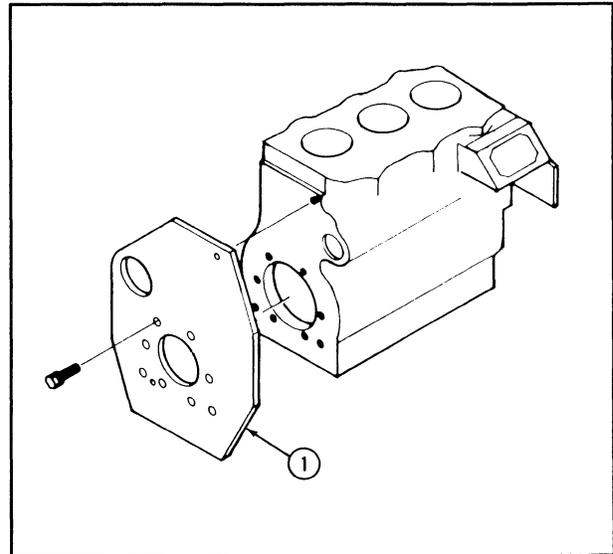

Figure 8
13. Apply liquid gasket sealer to the rear plate attaching surface and install the rear plate, Figure 8.